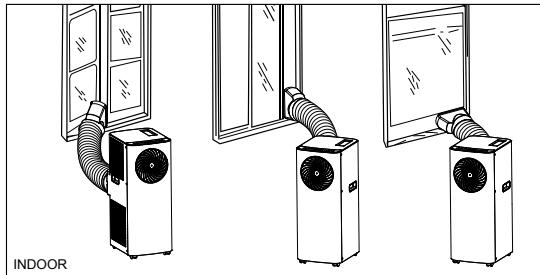

Fig. 4
- Extend hose (#11) to desired length and position the exhausted nozzle (#14) through an open window as shown on fig.4.